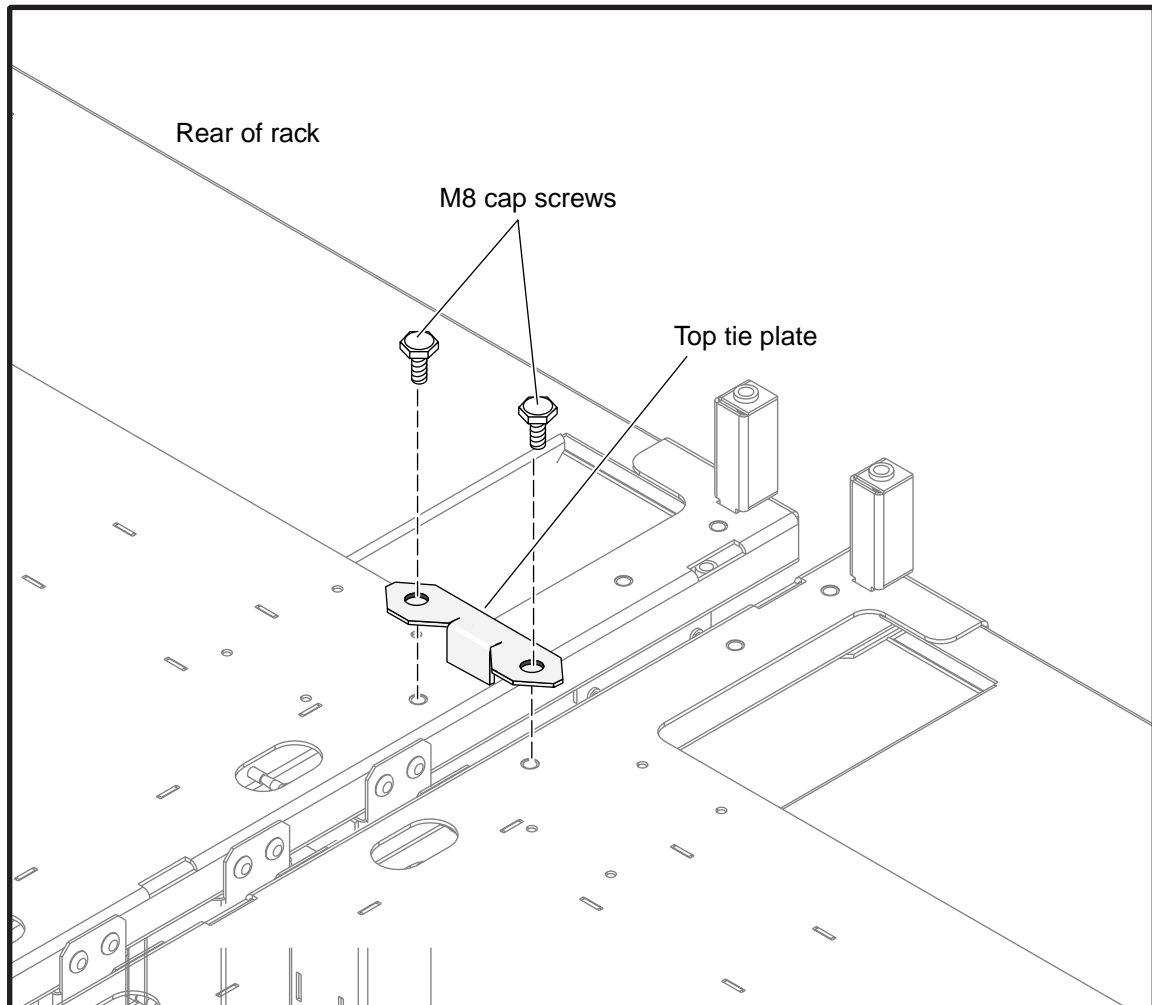
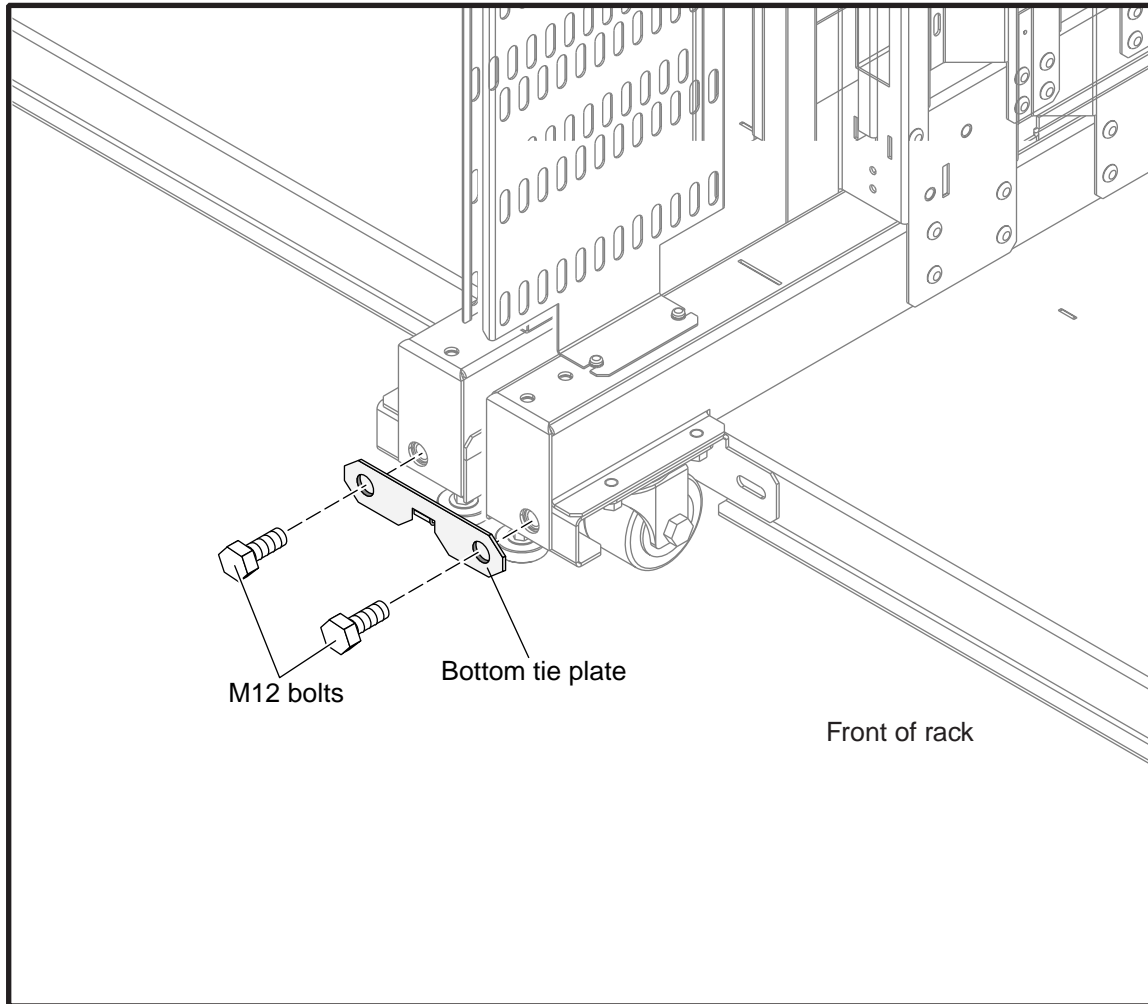

Figure 3-10 Rack Tie Plate Attachment Locations – Top
Figure 3-11 Rack Tie Plate Attachment Locations – Bottom
- Each rack in the system should be secured as shown in Figure 3-10 and Figure 3-11 for increased stability and proper grounding.
Top and bottom tie plates are used to secure the racks together. The attachment points are shown in Figure 3-10.